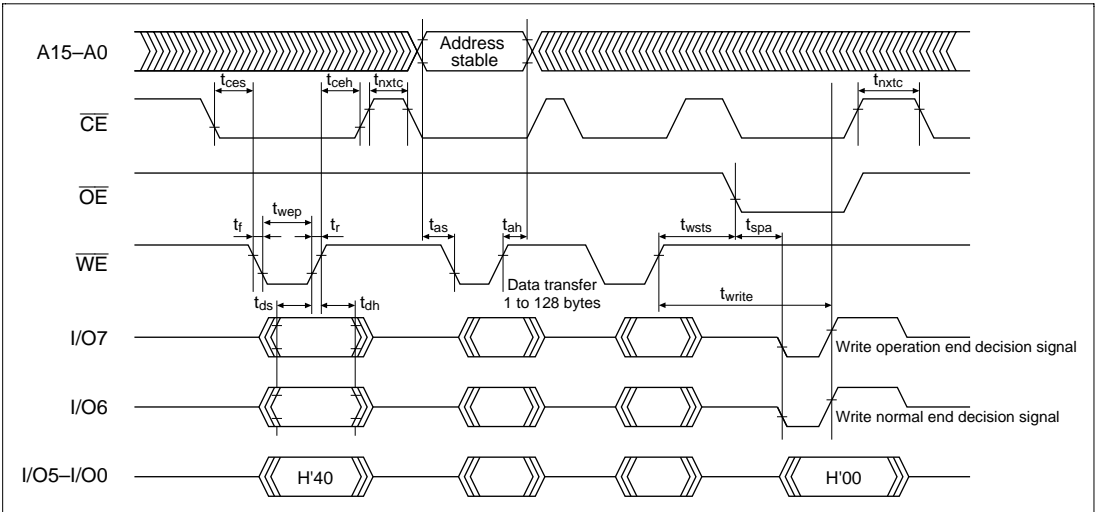

Figure 7.18 Auto-Program Mode Timing Waveforms
6. Memory address transfer is performed in the second cycle (figure 7.18). Do not perform transfer after the third cycle.